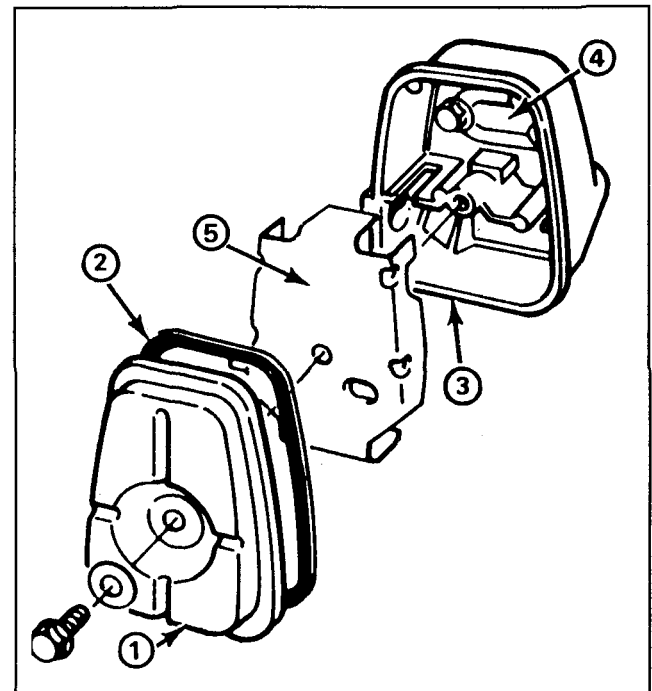

Figure 15
2. Mounting screws (3)
4. Rotate the engine crankshaft until the piston totally covers the exhaust port (Fig. 15). Clean the exhaust port area by using a clean, flat piece of hard wood. Remove all loose particles.